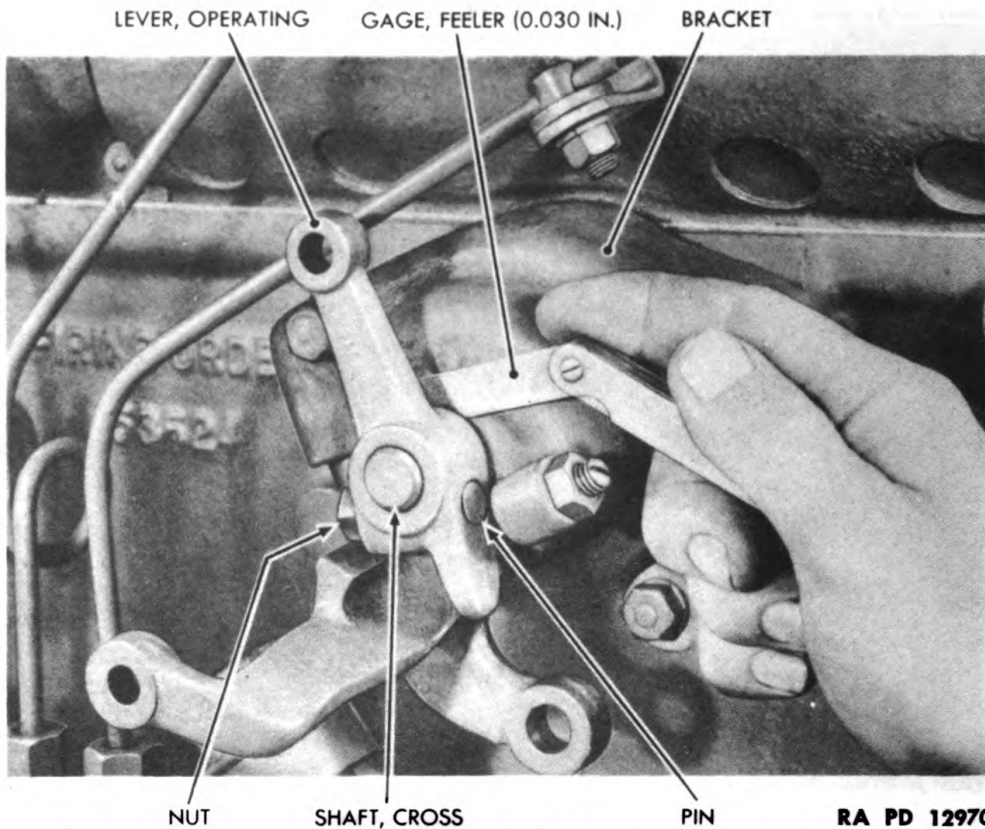

Figure 175—Checking Cross Shaft End Play at Operating Lever
(5) **INSTALL CROSS SHAFT OPERATING LEVER (fig. 175).**